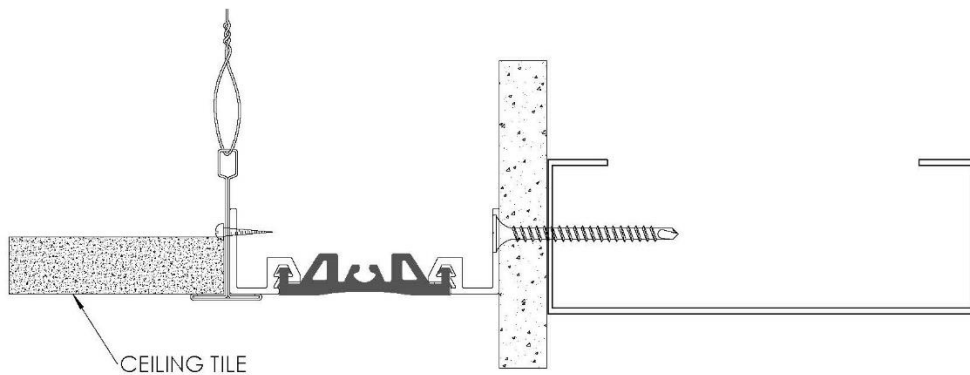

FIGURE 3
3. Replace the ceiling tile on the non-wall side of the joint opening. **See Figure 3**